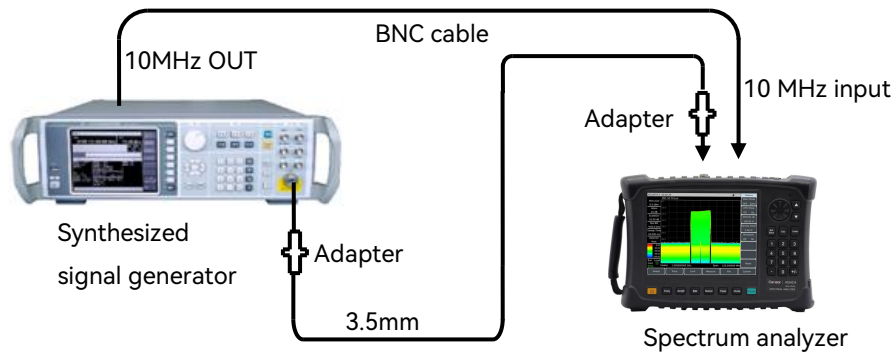

Figure 12-7 RBW test settings
- 1) Connect the test equipment according to Figure 12-7. The signal generator provides frequency reference for the spectrum analyzer;